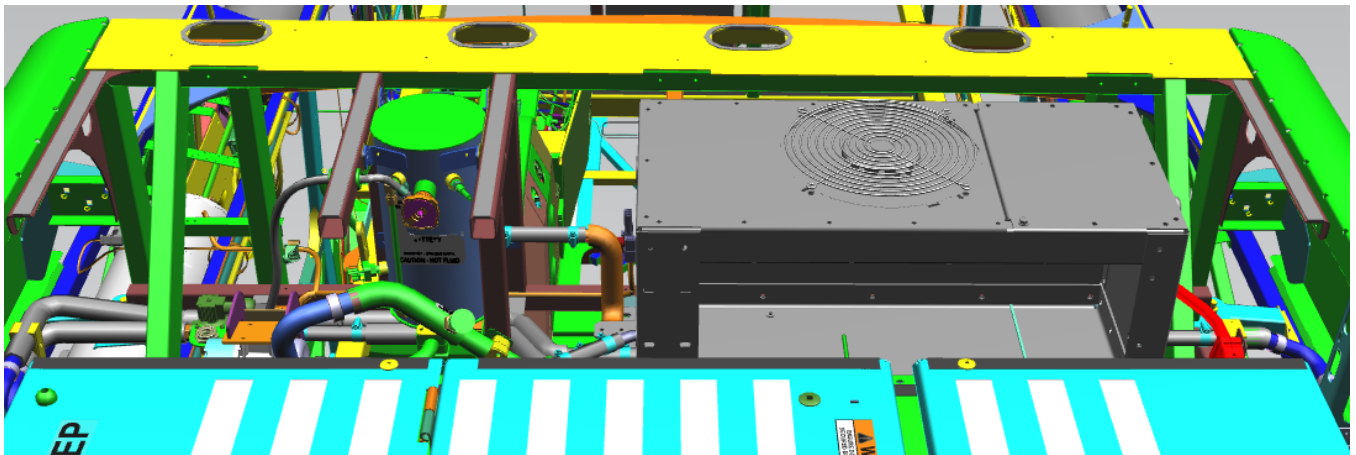

Figure 8: ESS HVAC Access Cover Removed
33. Remove access cover to gain entree to HV cables as shown in Figure 8.